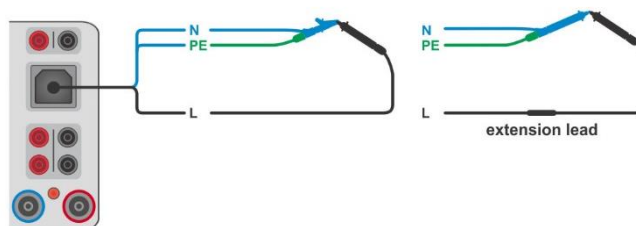

Figure 6.92: Shorted test leads
- › Connect test cable to the instrument and short all test leads together, see **Figure 6.92**.